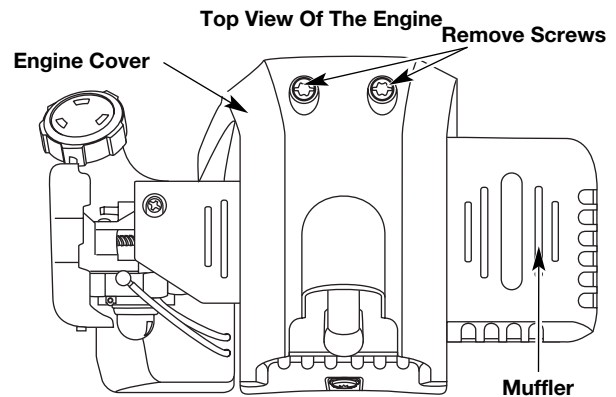

Fig. 31
2. Remove the two (2) screws on top of the engine cover with a Flat-head or T-25 Torx screwdriver (Fig. 31).
6. Remove the engine cover (Fig. 31).
13. Reinstall the muffler cover. Slip the rear tab on the muffler cover into the engine cover rear slot. Then slide the remaining slots into the tabs until they snap into place (Fig. 31).